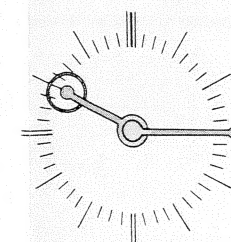
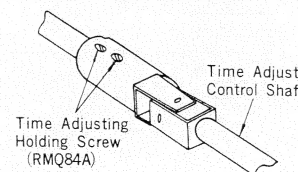
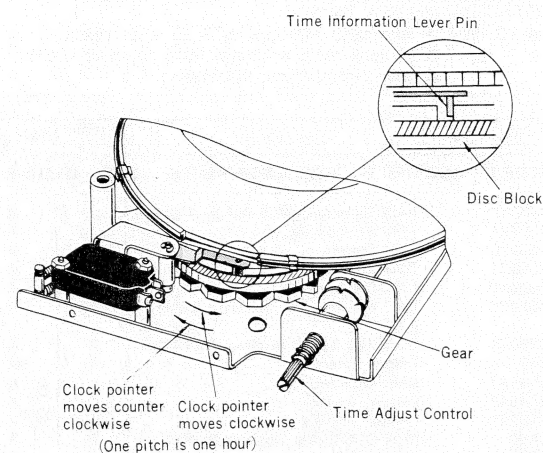

Fig. 14A
Fig. 14B
Fig. 15
3. Turn the time adjusting control and set the time to fifteen minutes after the hour, as shown in fig. 14A. In addition, loosen the screws (2) which were not marked, as shown in fig. 14B.
4. Turn the time adjusting control and set the time to one hour later than the previous on-the-hour setting (zero minutes). Loosen the marked screws (2). (Time adjusting control shaft is disconnected from the clock shaft.)
5. Turn the time adjusting control and stop exactly when the time information lever pin drops back in the slot of the disc block, as shown in fig. 15.
6. Tighten the screws (4) which were loosened in steps 3 and 4.
7. Confirm that the time announcement is synchronized with the time indication. If it is not synchronized, turn the gear to the right or the left, as shown in fig. 15.